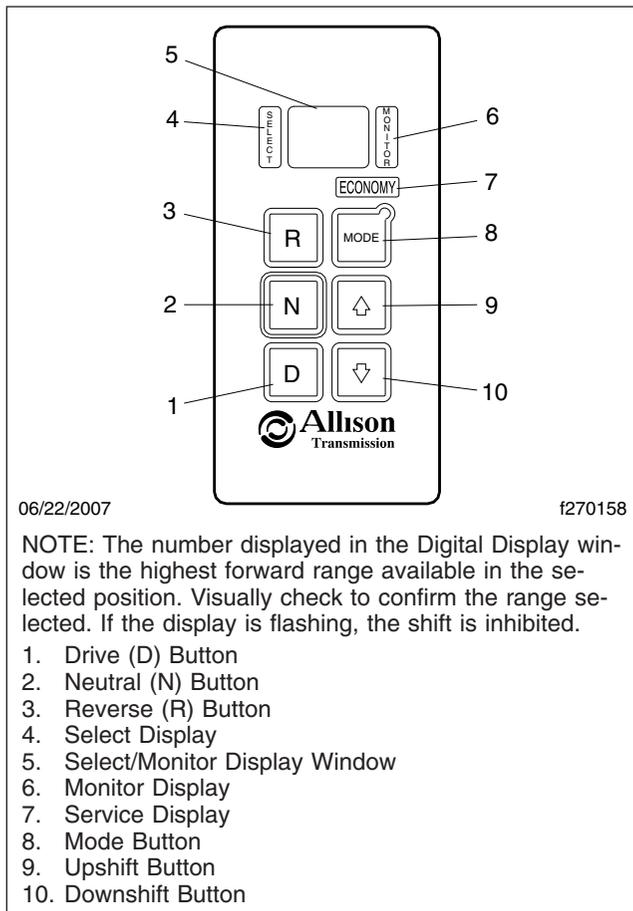

Fig. 6.1, GEN IV Shift Selector
2500, 3000, and 4000 MH series automatic transmissions have six forward speeds and one Reverse (R) speed. These transmissions have electronic shift controls that can be programmed to allow the use of different numbers of geared speeds. See Fig. 6.1. For instance the transmission can be programmed to operate as a 4-speed, 5-speed, or 6-speed unit in the "primary" shift mode. If needed, a "secondary" shift mode can be programmed to provide another shift configuration to optimize vehicle use under different operating conditions. To activate a secondary shift mode, or other special function programmed into the electronic control unit (ECU), depress the Mode button. A label just above the Mode button identifies the special function.